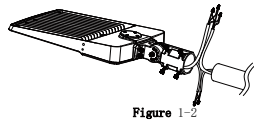

Figure 1-2
Step2: Connect the input wires of the fixture to the mains correctly, Figure 1-2;